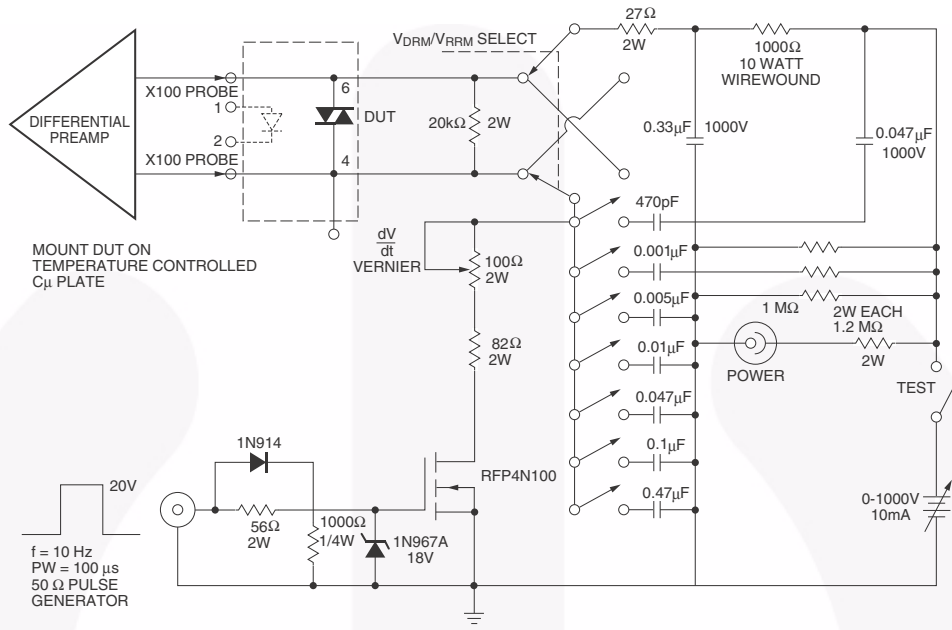

Figure 11. Circuit for Static  $\frac{dv}{dt}$  Measurement of Power Thyristors
- This is static dv/dt. See Figure 11 for test circuit. Commutating dv/dt is a function of the load-driving thyristor(s) only.